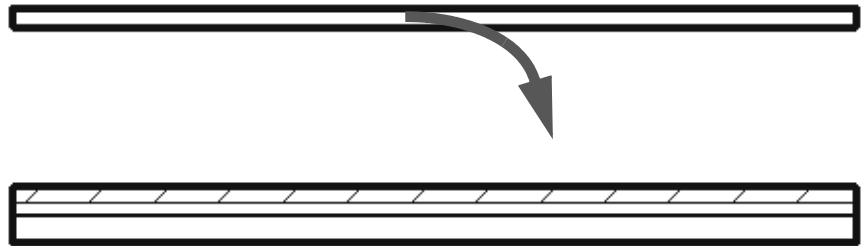

Figure 2–80
5. Where do you change the wall type for a selected wall, as shown in Figure 2–80?